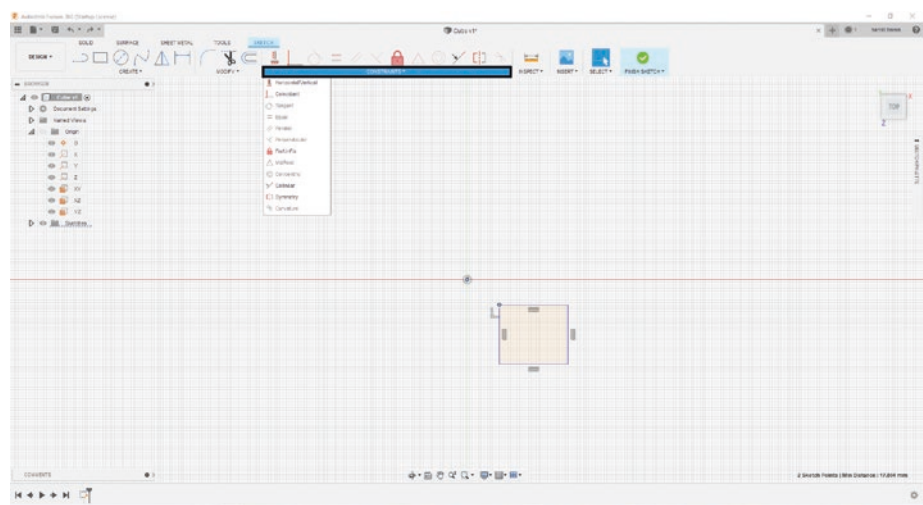

Figure 3-44. Select the “CONSTRAINT” drop-down menu
7. Go to the “CONSTRAINTS” menu under the “SKETCH” tab. See Figure 3-44.